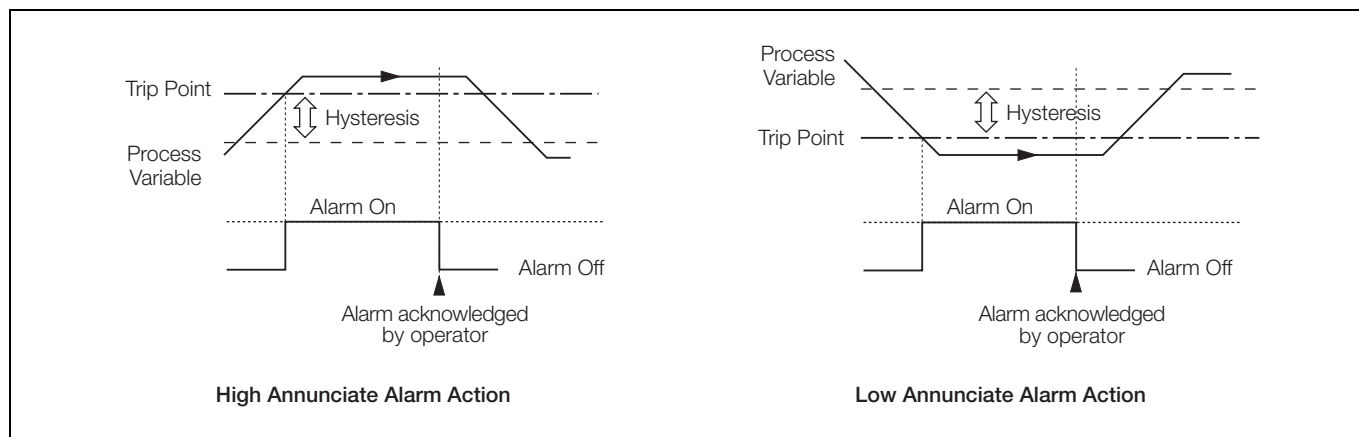

Fig. 4.13 High/Low Annunciate Alarms
- High/Low annunciate – see Fig. 4.13, page 86
Note. Annunciate alarms only – see Fig. 4.13, page 86.